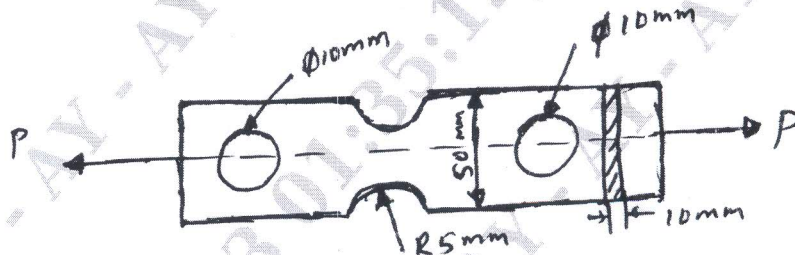

Fig.Q2(b)
b. Determine the safe load that can be carried by a rectangular bar of cross section as shown in Fig.Q2(b) limiting the maximum stress to 130 MPa taking stress concentration into account.